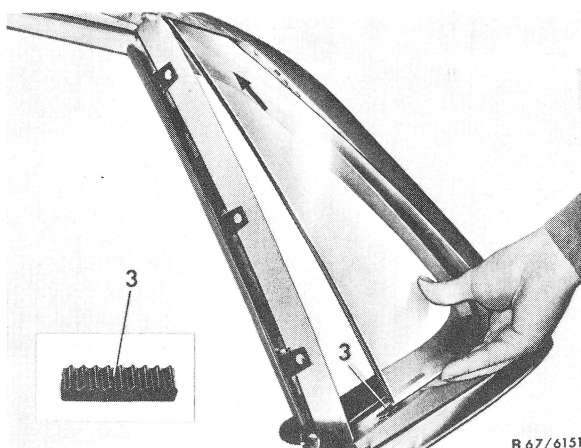

Fig. 6
**23** Place two spacers (3) (4 mm high) from repair kit on the two lower clips, as shown in Fig. 6 and 7.
**24** Insert side window at an angle in upward direction, align and place carefully against glue bead on channel in such a manner that glass rests on spacers (Fig. 6 and 7).